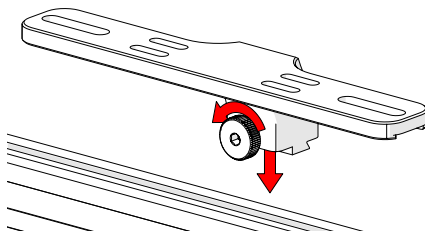

Fig. 270 - Loosen knob and mount to dovetail groove
1. Loosen the knob and align with the dovetail groove (*Fig. 270*).